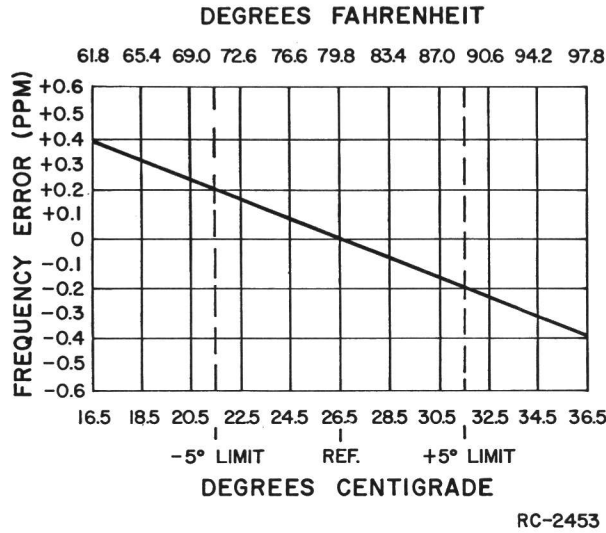

Figure 7 - Frequency Characteristics Vs. Temperature
- 2. Maintain the radio at 26.5° C (±10° C) and offset the oscillator, as a function of actual temperature, by the amount shown in Figure 7.
- B. To hold setting error to ±0.35 PPM (which is considered reasonable for 2 PPM ICOMS): maintain unit at 26.5° C (±5° C) and offset the oscillator as a function of actual temperature, by the amount shown in Figure 7.